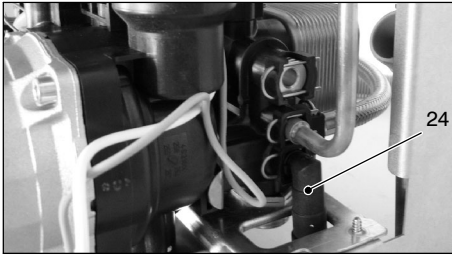

Fig. 9.4
- 2 Open the central heating drain cock (24 in Fig. 9.4).